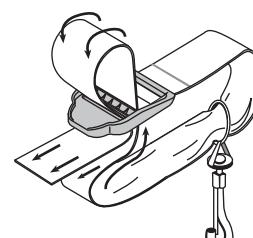

Fig. 17
- Pull the strap over the cross bar and down through the slot in the buckle (Fig. 17).